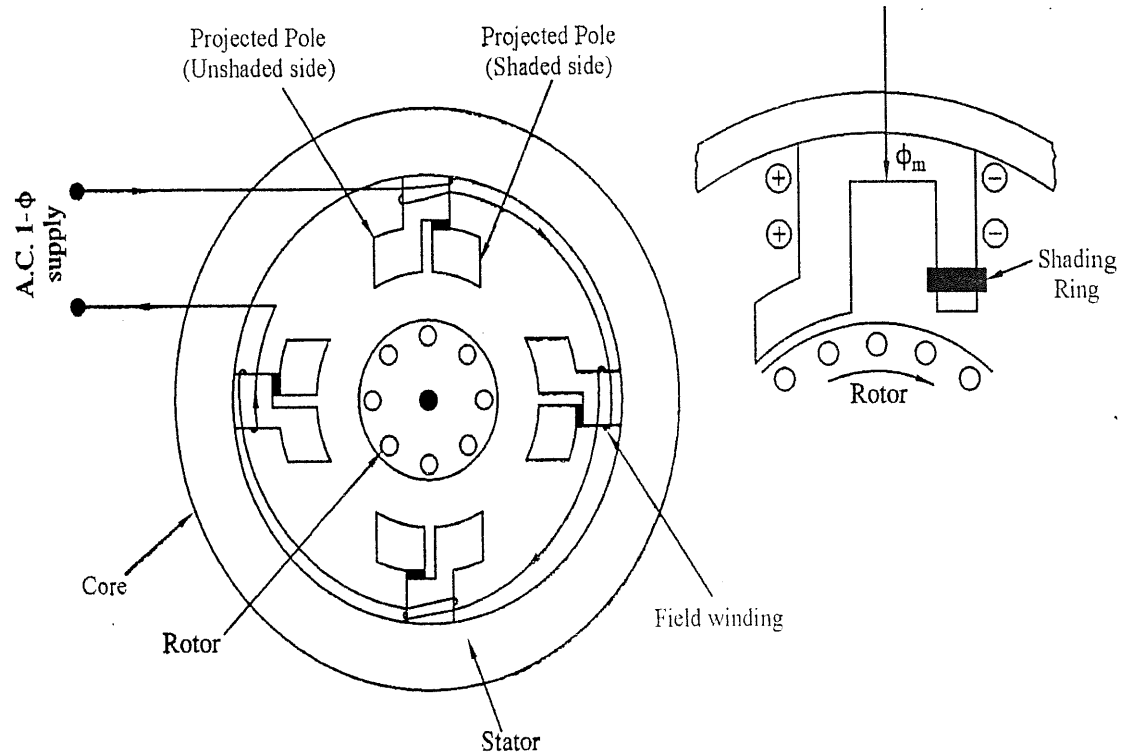

FIG. 4.17 : SHADED POLE INDUCTION MOTOR
- Fig. 4.17 shows the shaded pole single phase induction motor. There are main two parts of the shaded pole single phase induction motor;